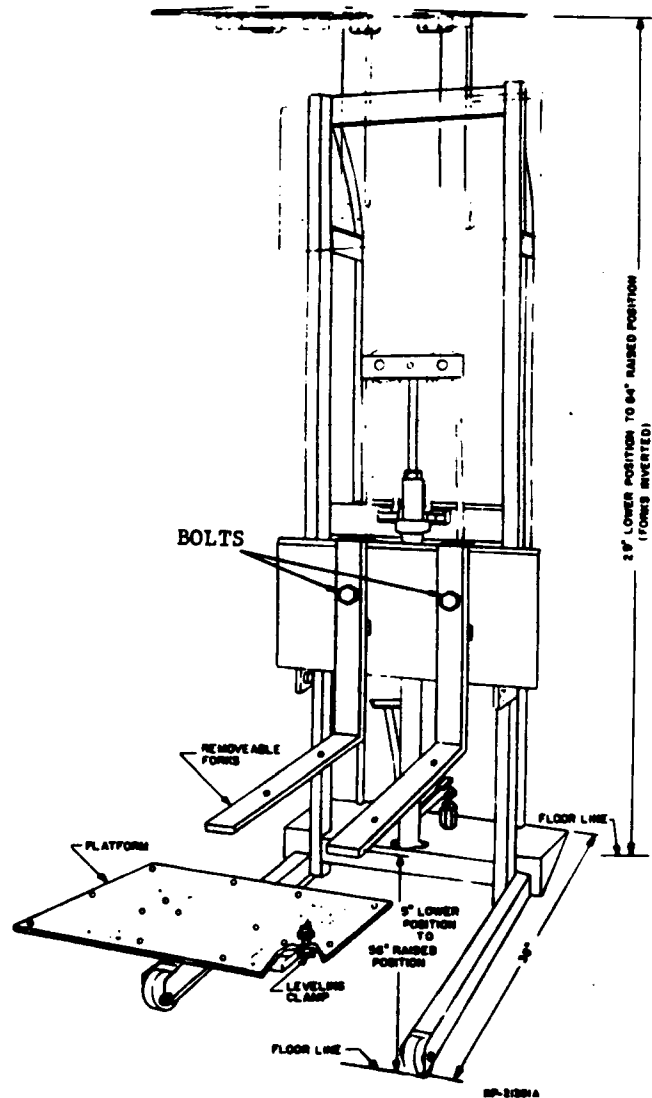

FIG. 1 FRONT VIEW OF R-3870 MANUAL HYDRAULIC LIFT TRUCK
- 1.21 Refer to Figures 1 and 2 for the location of various parts of truck which reference may be necessary when performing operations covered by this section.
3. OPERATING AND ENGINEERING FEATURES OF R-3870 LIFT TRUCK (See Figures 1 and 2.)